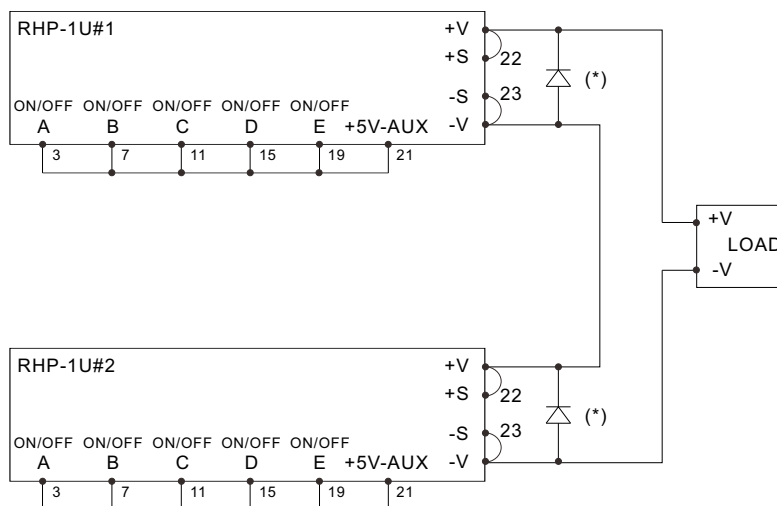

Figure 3-9 Configuration of rack shelf units in series
- ⊙ The rack shelves (RHP-1U□) connected in series should have the identical units. Please refer to Figure3-9 for wiring configuration.
- ⊙ It is suggested that add external diodes (*) on the output, shown in Figure 3-9, to prevent reverse voltage. Rating of these diodes should be higher than the total amount of output voltage and current.